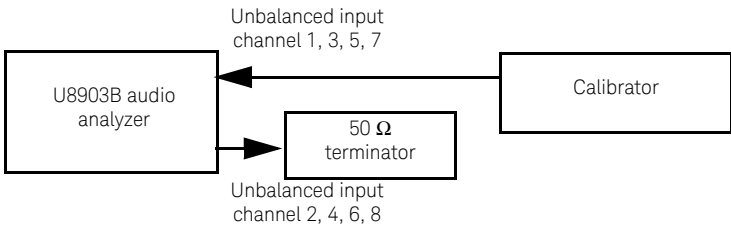

Figure 3-5 Audio generator to U8903B with terminator connection for crosstalk verification
- 1 Connect the calibrator output to the U8903B input channel to be tested via the Unbalanced connection as shown in **Figure 3-5**. The BNC-to-banana jack adapter is used for this connection. Terminate the adjacent U8903B input channel with a 50 Ω terminator. Preset both the U8903B and calibrator.